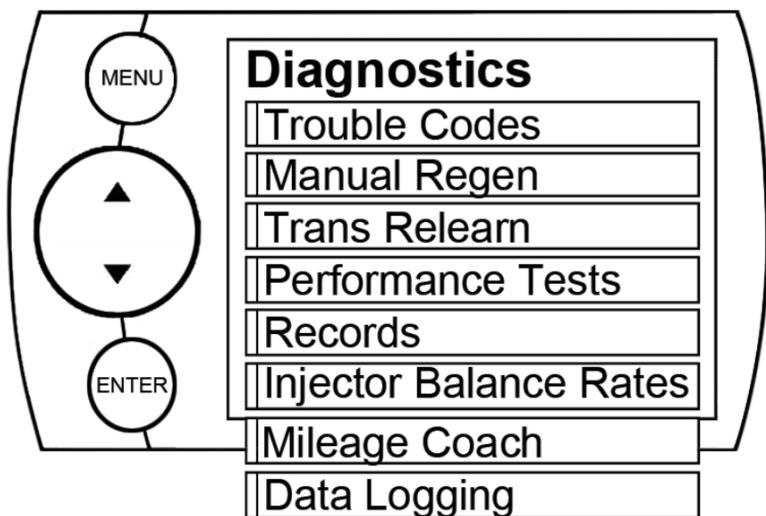

Figure 7
NOTE: Not all options in Figure 7 will be available. The availability of these options will vary due to the product you purchased and your vehicle.
1. Selecting the **Manual Regen** option in the **Diagnostics** menu. (Figure 7)